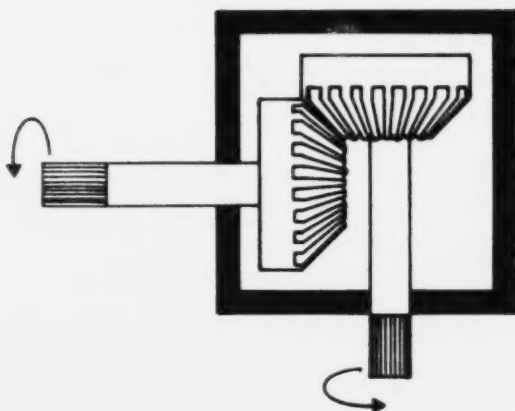

Figure 4-23. Simple gear box.
figure 4-23 will change the angle at which the rotary motion is transmitted. The jackscrew shown in figure 4-24 consists simply of a screw and a nut. The screw turns, and the nut remains stationary. As the screw turns, it actually causes the nut to move back and forth on the screw. This is the principle on which the jackscrew works. If a hydraulic motor were attached to this screw, it would cause the nut to travel the length of the screw.
5. What is the purpose of the gear box shown in figure 4-23?